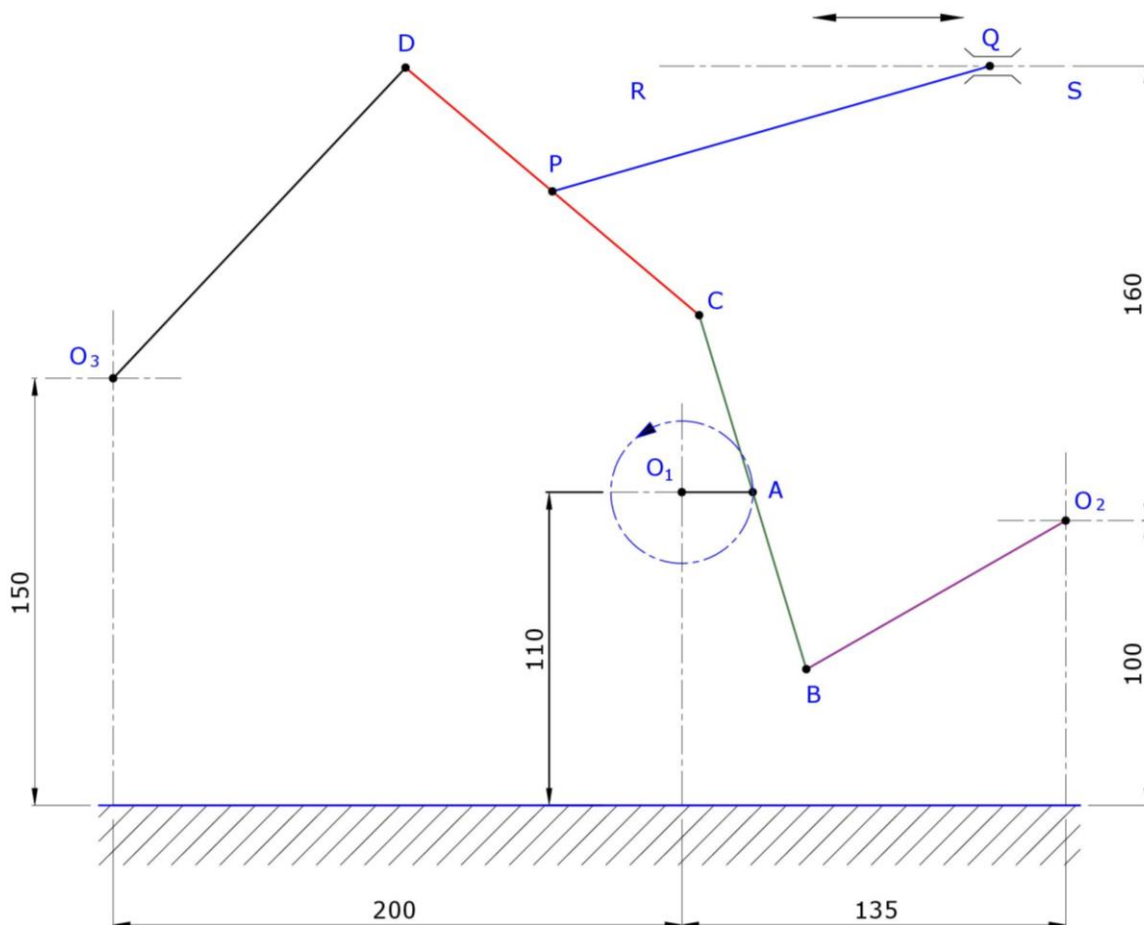

Figure 3
In the mechanism shown in Figure 3, O_1 , O_2 and O_3 are fixed points.
| a) copy Figure 3; | (2) |